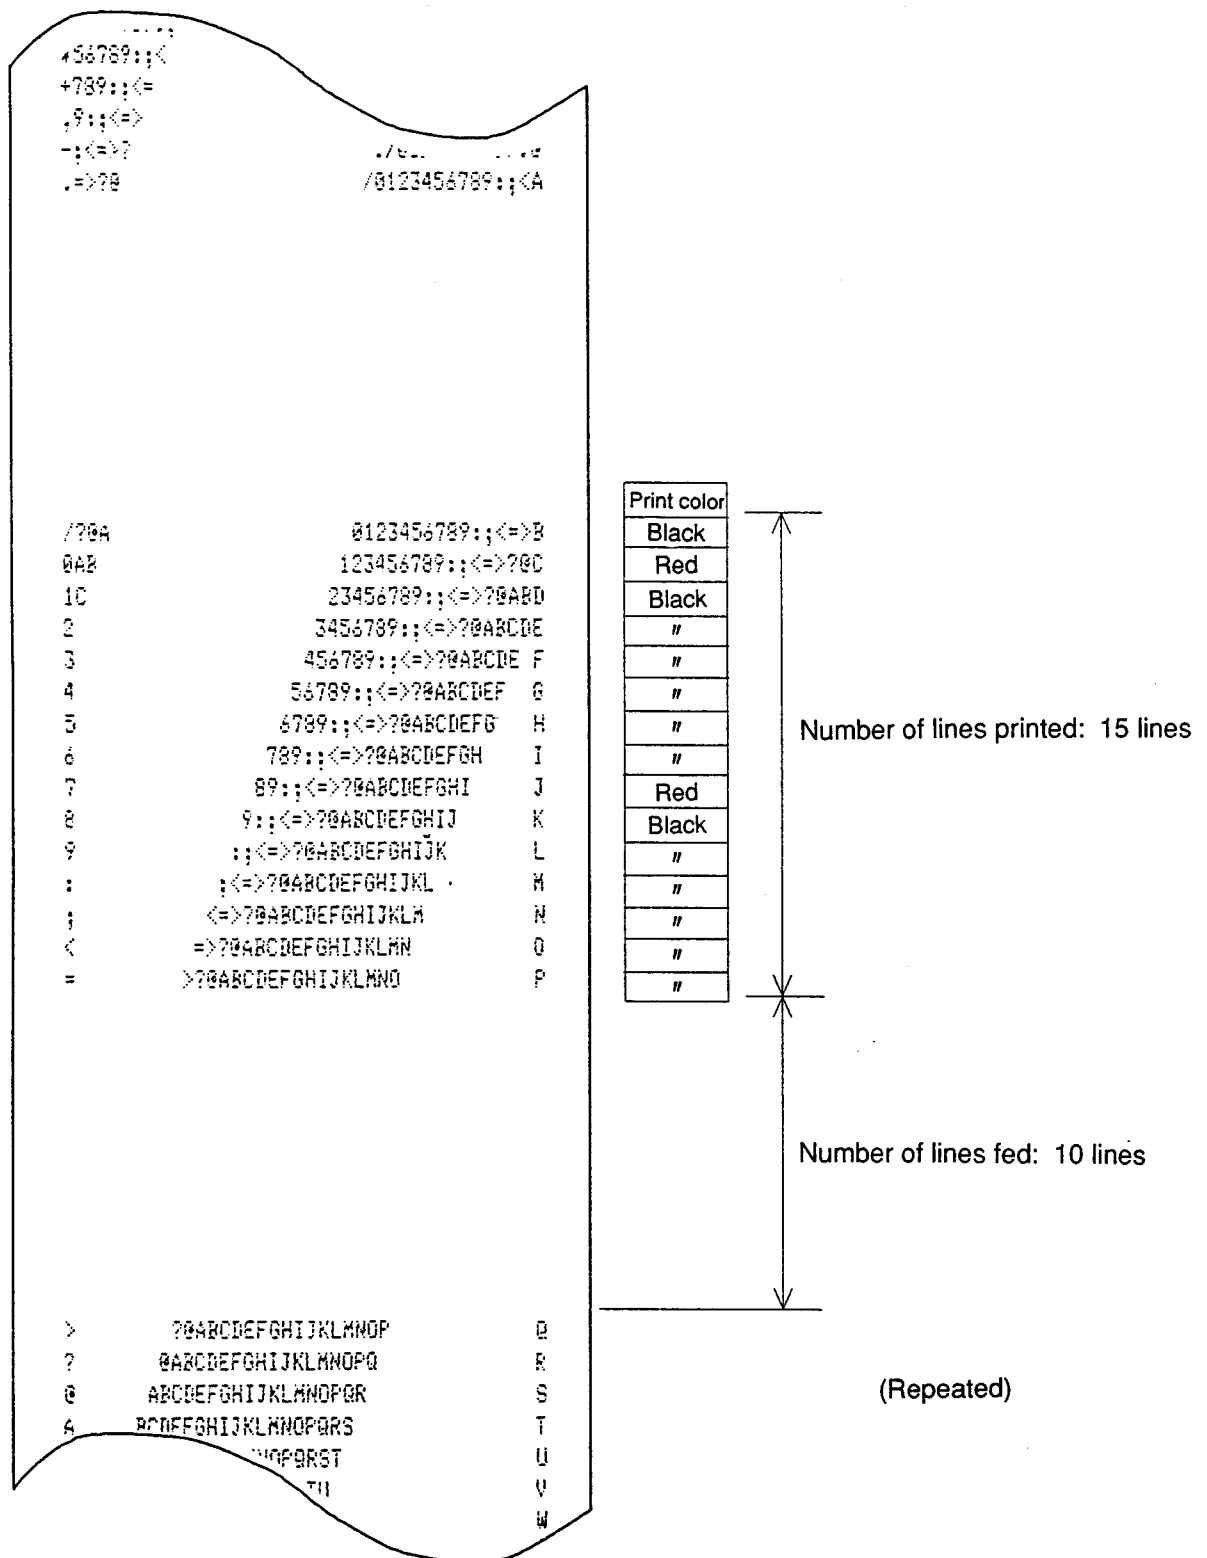

Figure A-2 Continuous Printing Test Pattern (Using the ERC-38(B/R))
- The upper limiting conditions on continuous printing are as follows. (An example test pattern is shown in Figure A-1 and Figure A-2.)